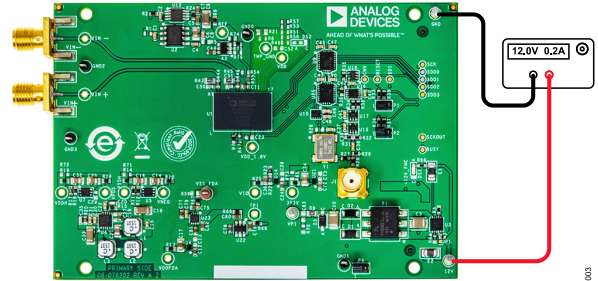

Figure 3. EVAL-ADAQ4216-FMCZ External Supply Connection
4. Connect the +12V bench power supply to the 12V test point on the EVAL-ADAQ4216-FMCZ board (see Figure 3). Connect the bench supply ground to the GND test point, as shown in Figure 3.